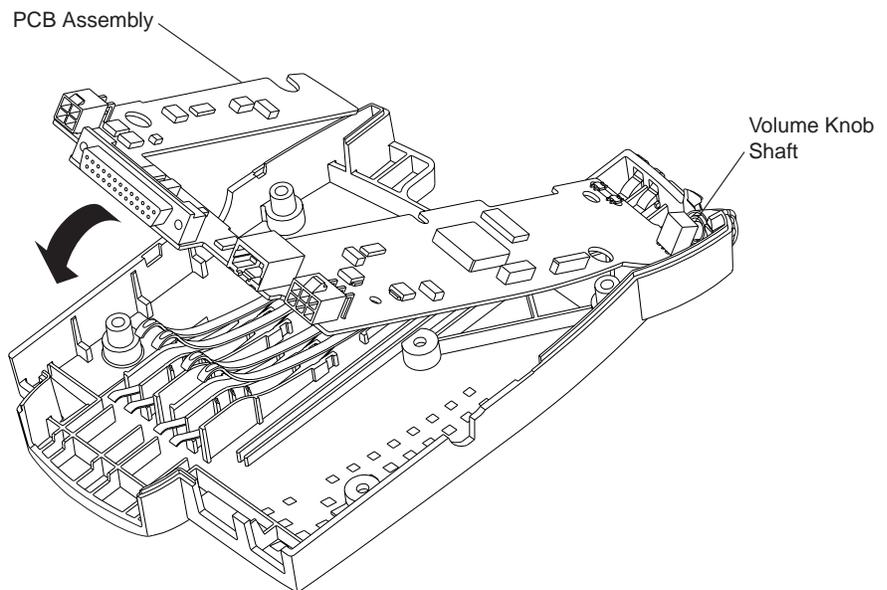

Figure 11 Replacing the PCB Assembly
1. The four PCB contacts (13) must first be placed into the back housing (14) slots before reinserting the four charge contacts (12). The PCB contacts have locating tabs on both edges that must be inserted into their respective grooves in the back housing.
2. When inserting the four charge contacts (12), insert the widest portion of each contact slightly beyond the slot opening, then rotate it downward until it bottoms out. Do not try to force the contact into position; this will permanently damage it.
3. Do not replace the nameplate label (17) until the entire unit has been reassembled and the fasteners tightened together.
4. Referring to Figure 11, insert the PCB assembly (11) by holding the PC board at an angle to the back housing (14) while inserting the volume knob shaft into the volume knob opening in the back housing. Pivot the board downward the housing until it is back in place. Do not press down the board at this time because some contacts may not be properly seated.